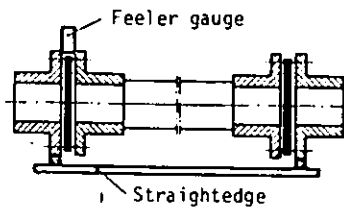

Fig. 7.4
- 5.2.5. Figs. 7.4 and 7.5 show alignment of type NN with intermediate shaft and type NHN, using a straightedge and feeler gauge or slide caliper rule resp.